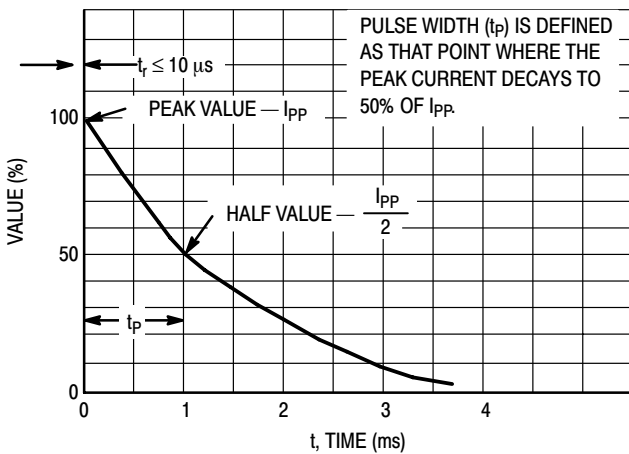

Figure 5. Pulse Waveform
- Peak Power – 40 W @ 1.0 ms (Bidirectional), per Figure 5 Waveform
1. Nonrepetitive current pulse per Figure 5 and derate above  $T_A = 25^\circ\text{C}$  per Figure 6.
5. Surge current waveform per Figure 5 and derate per Figure 6